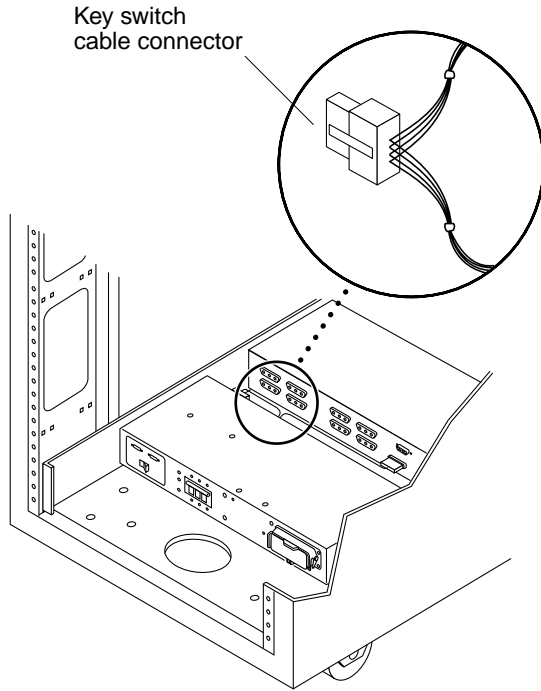

FIGURE 4-9 Key Switch Cable Connector Location
1. **Disconnect the key switch cable connector from the adapter-cable connector near the back of the power sequencers (FIGURE 4-9).**
3. Connect the key switch cable connector to the adapter-cable connector near the back of the power sequencer (FIGURE 4-9).